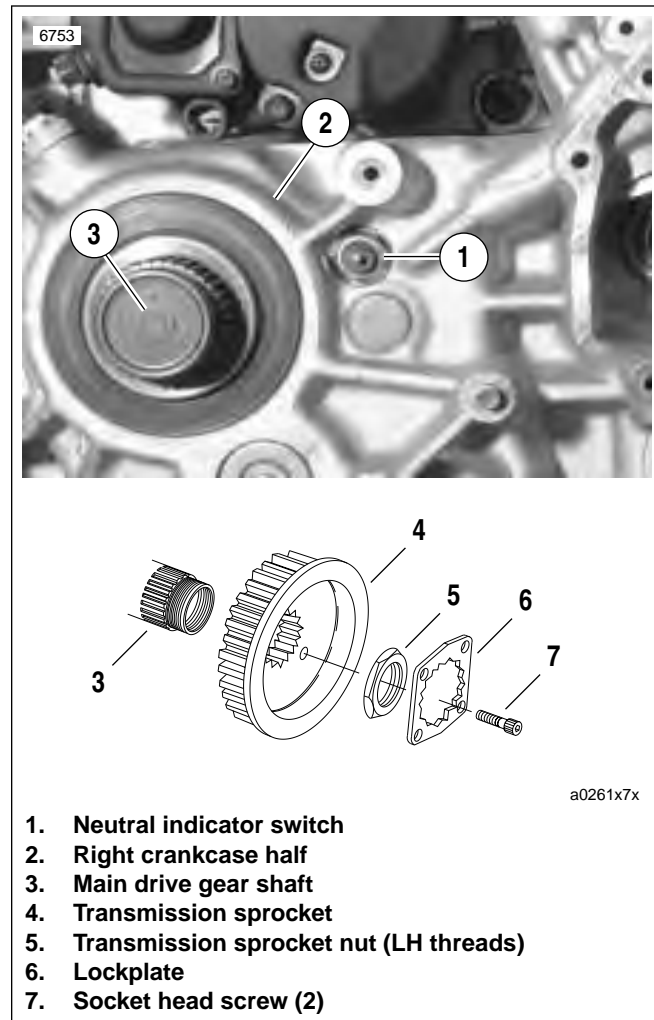

Figure 7-77. Neutral Indicator Switch
See Figure 7-77. The neutral indicator switch (1) is threaded into the transmission portion of the right crankcase half (2); it is immediately forward of the main drive gear shaft (3). The sprocket cover must be removed to test the switch. If switch requires replacement, secondary drive belt and transmission sprocket must also be removed; there is not enough clearance to allow the removal of the switch without first removing the transmission sprocket.
3. See Figure 7-77. Place transmission in first gear. Remove two socket head screws (7) and lockplate (6).
4. See Figure 7-77. Remove transmission sprocket nut (5) from main drive gear shaft (3).
5. Remove transmission sprocket (4) (with secondary drive belt) from main drive gear shaft (3).
6. Remove wire lead from neutral indicator switch (1). Remove switch from right crankcase half (2).
- a. Apply a light coating of LOCTITE 243 (blue) to **new** neutral indicator switch (1) threads.
8. Install transmission sprocket (4) (with secondary drive belt) onto main drive gear shaft (3). See 6.14 TRANSMISSION SPROCKET.